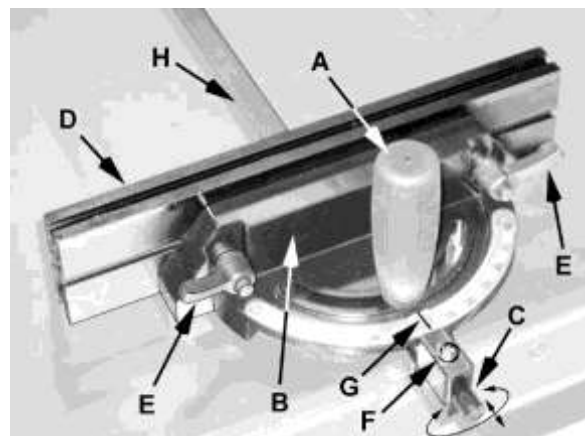

Fig.16
The Shaper is equipped with pulleys that allow you to change the spindle speed. The belt (B) placed on the upper pulleys (Fig.16) provides 7,500 RPM spindle speed. Placing the belt on the lower pulleys provides 10,000 RPM spindle speed.
Referring to Fig. 16: